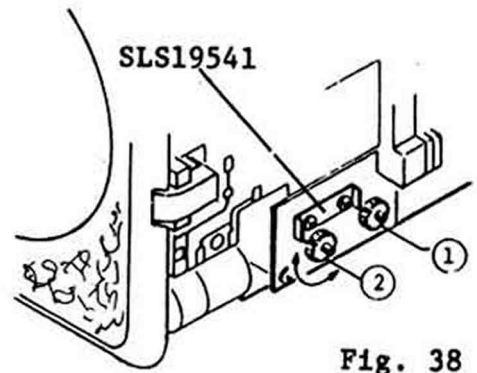

Fig. 38
- b. Release SLS19541 Stop spring ② on the gear of 2nd curtain spring drum by tweezers as shown in Fig. 38.